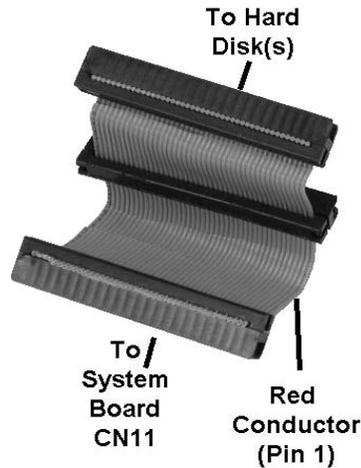

Figure 3-20: Installing the Hard Drive Data Cable
6. Attach the data cable to drive as shown in Figure 3-20.